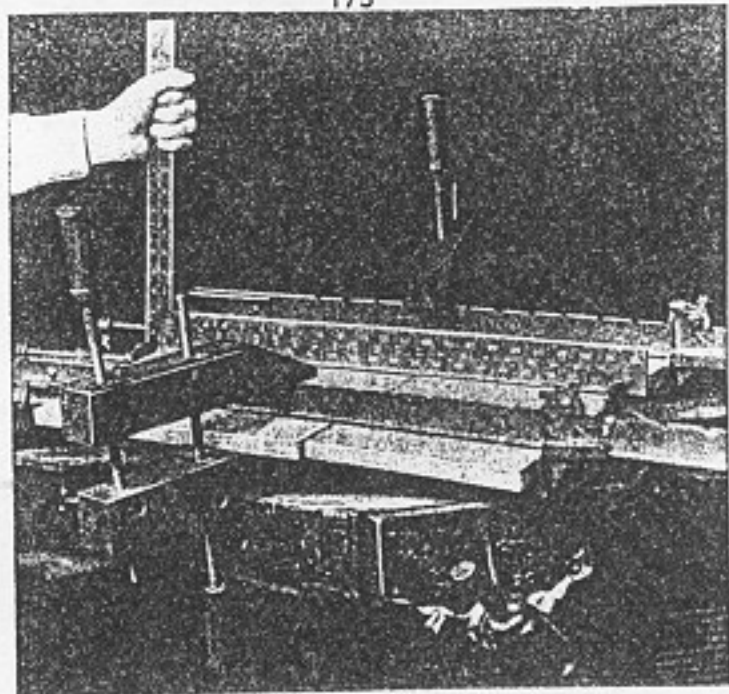

Fig. 270. Testing glued boards for flatness.
5. The boards are tested for flatness with a framing square (Fig. 270). If they bulge in the center, they are clamped with a hand screw to the iron clamps. If this does not correct the trouble, the straight edge of a board or plank, at least 3 in. wide, is clamped across each